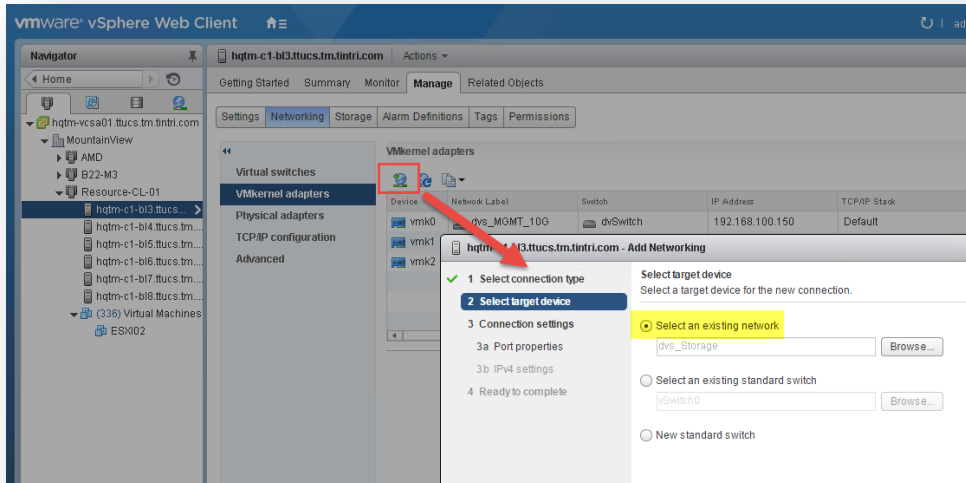

Figure 18 - Creating a new VMkernel port in the vSphere Web Client
- b. For target device, choose the radio button for “Select an existing network”.(See Figure 18)